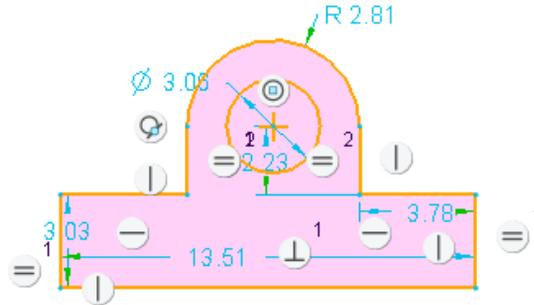

Figure 3-46 Sketch after drawing the arc and the circle
7. Click on the arc; a rubber-band circle appears. Size the circle by moving the cursor and click to complete it. The sketch after drawing the circle is shown in Figure 3-46.